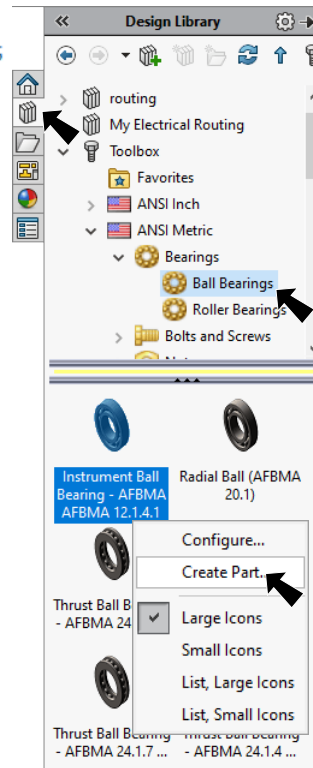

Fig. 2
Step 1. Click **Design Library** tab in the Task Pane (right side of graphics area), **Fig. 2**.
Step 3. **Right click Instrument Ball Bearing...** and click **Create Part** from menu, **Fig. 2**.